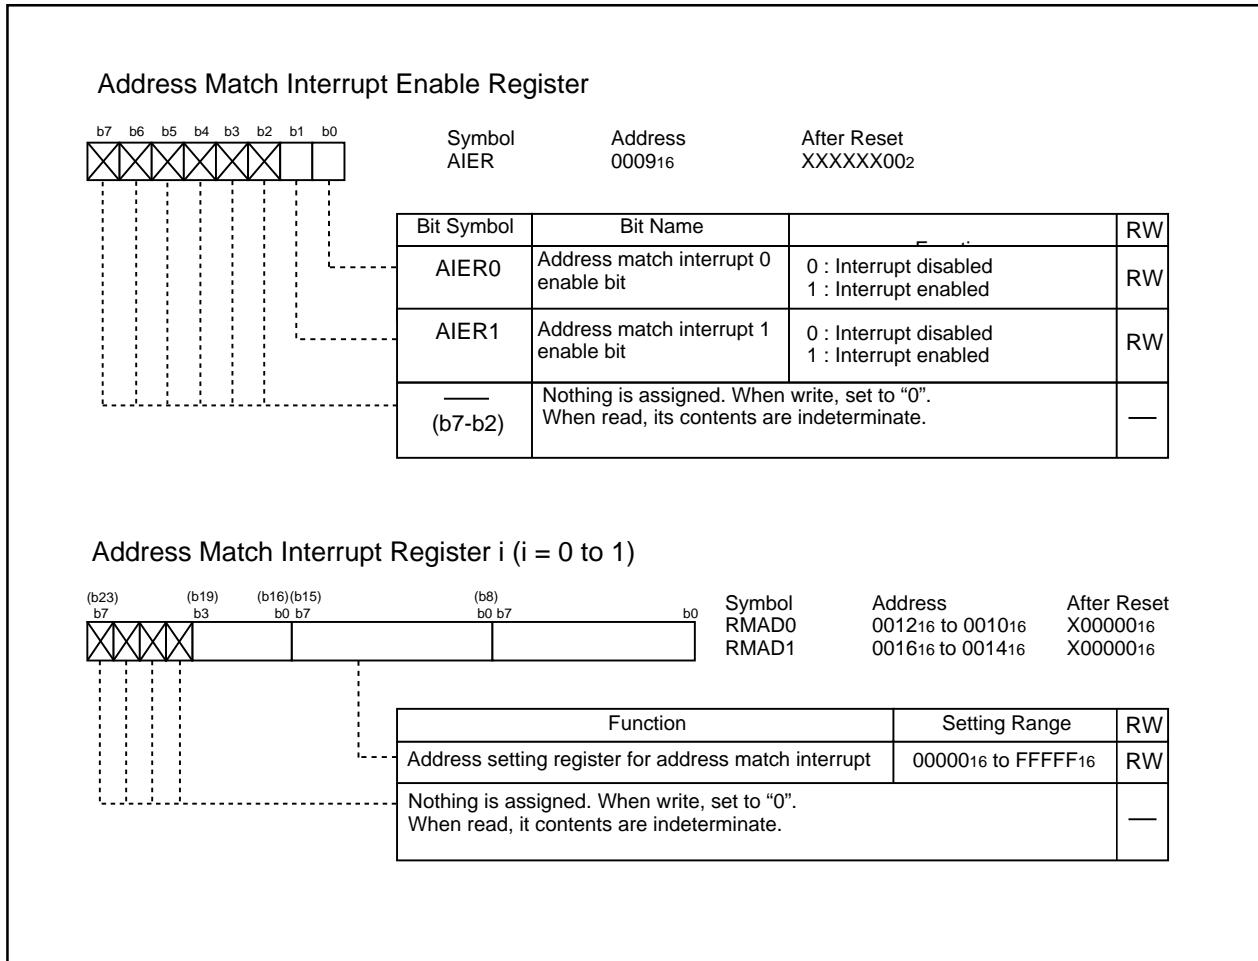

Figure 9.13 AIER Register, RMAD0 and RMAD1 Registers
**Figure 9.13** shows the AIER, RMAD0 and RMAD1 registers.